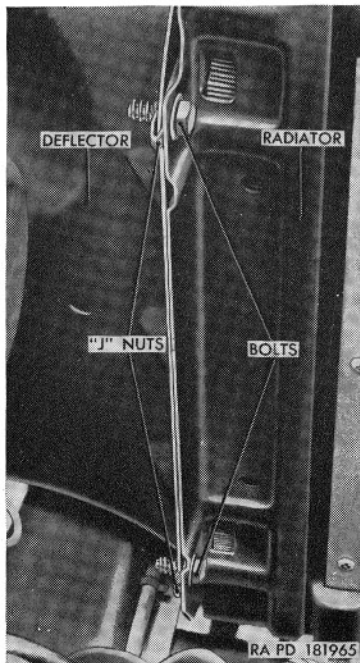

Figure 16.1. (Added) Radiator to guard panel *J* nuts M170—installed.
a. Remove two bolts from *J* nuts (fig. 16.1) securing radiator to guard panel on each side of radiator.